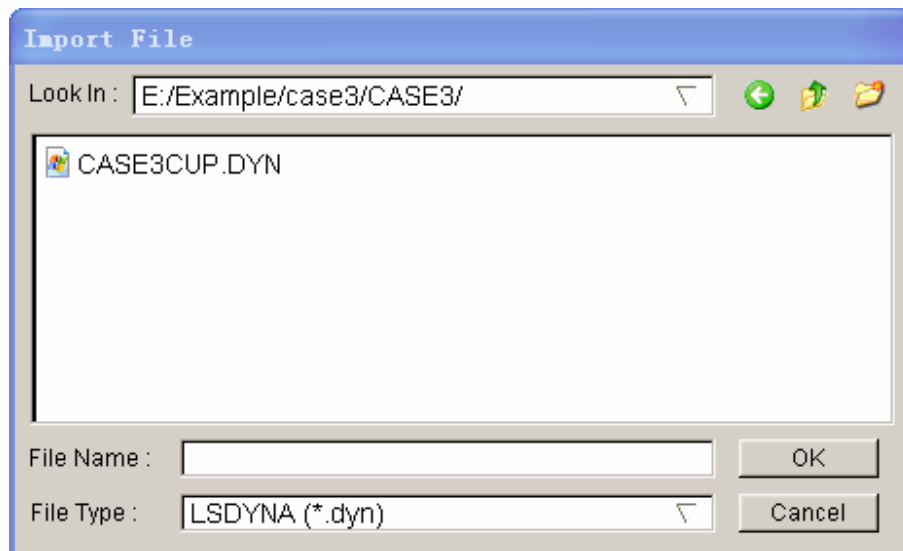

Figure 3.8.1 Select Input File
1. eta/DYNAFORM prompts the user to select the input file. See Figure 3.8.1.